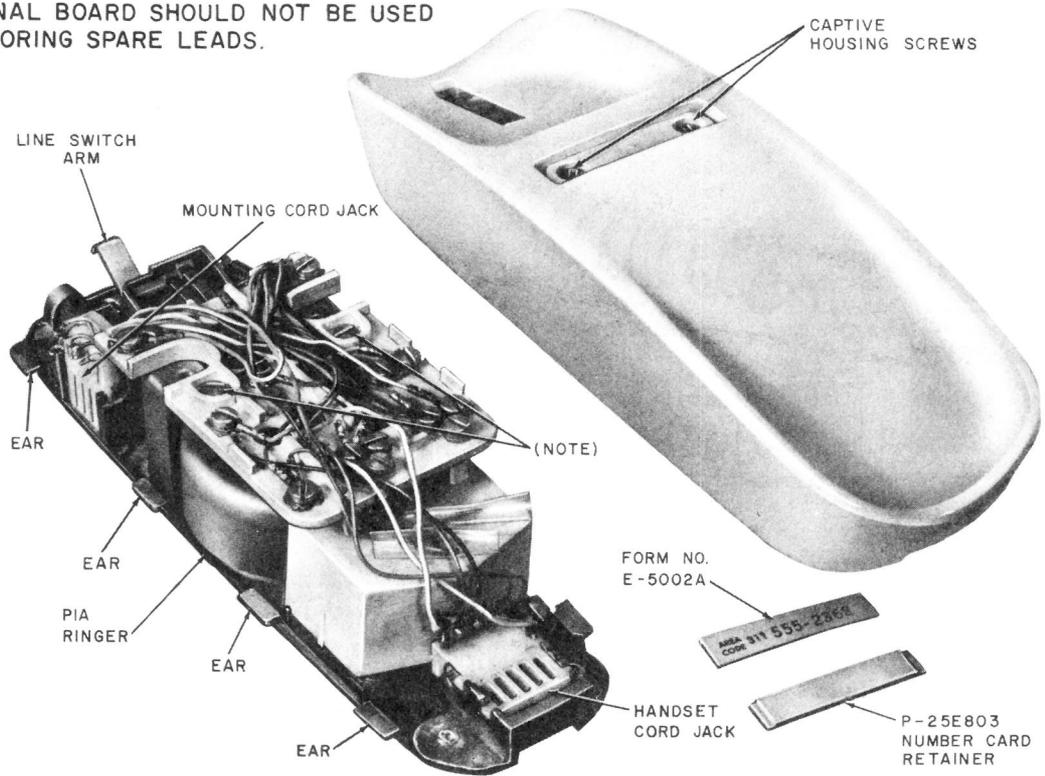
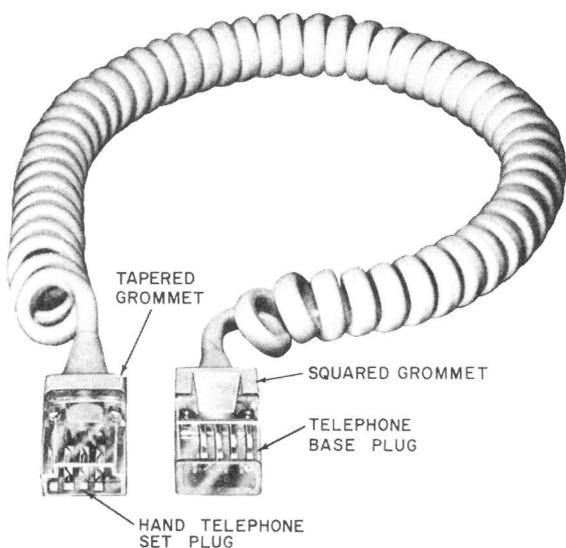

Fig. 8—Interior of AD1 Telephone Base
Fig. 9—H4DB Handset Cord
- Equipped with jack (Fig. 8) to accommodate a plug ended handset cord (Fig. 9)
When making any wiring changes in the bases, do not use screws securing terminal board as a bridging point or for storing leads (Fig. 8).